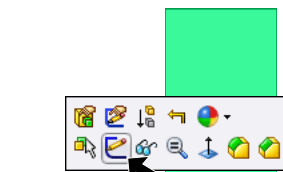

Fig. 15
Step 2. Click the **bottom face** of the body and click **Sketch**  on the Content menu, **Fig. 15**.